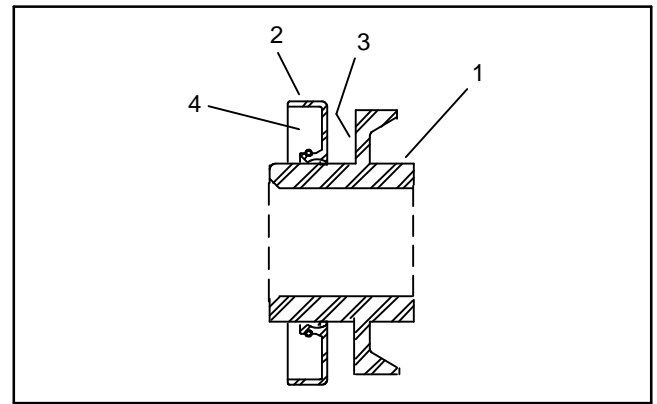

Figure 30
5. Apply a coating of grease to the nut surface to prevent seal damage during seal installation (Fig. 30).
6. Carefully install seals onto bearing lock nuts. Pack the back of the seal 75 to 90% full with #2 grease (Fig. 30).